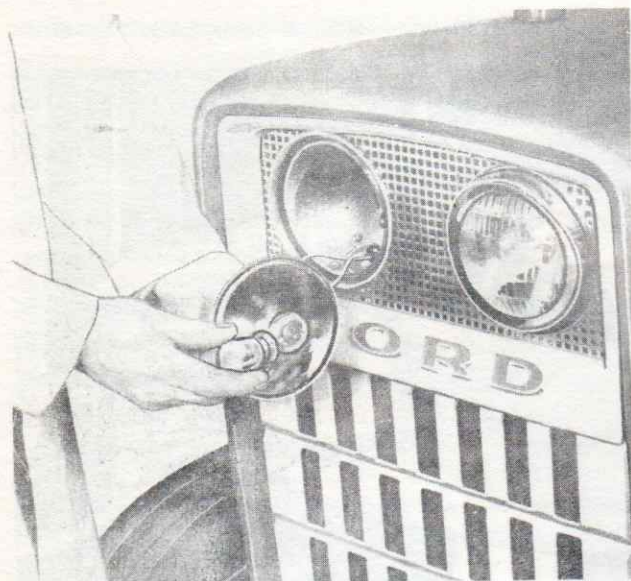

Figure 38
3. Install the new bulb, Figure 38, and assemble the lens and reflector making sure the wiring connections are tight; that the top of the unit is up; and that the locating tab is positioned in the slot.